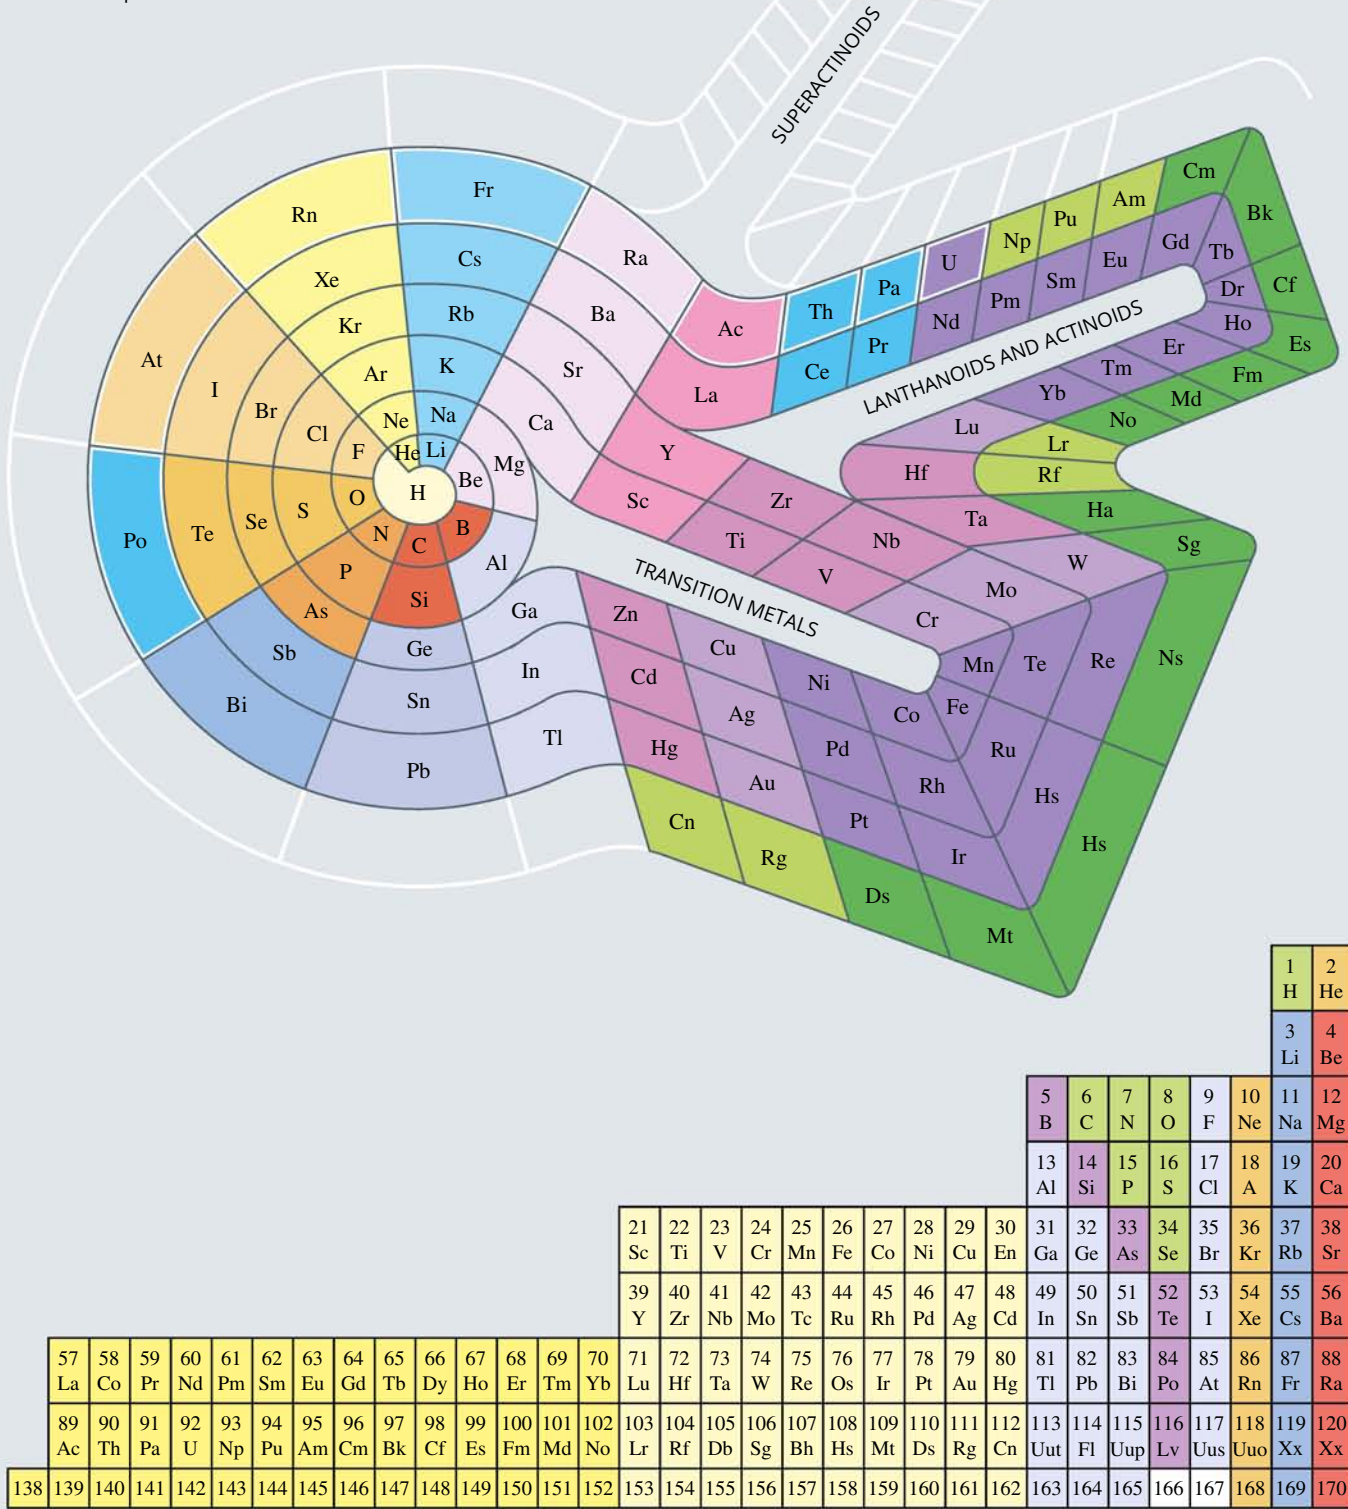

FIGURE 2.4.1
- 13 What concepts or ideas are the two versions of the periodic table in Figure 2.4.1 trying to convey? Search the internet for other versions of the periodic table.